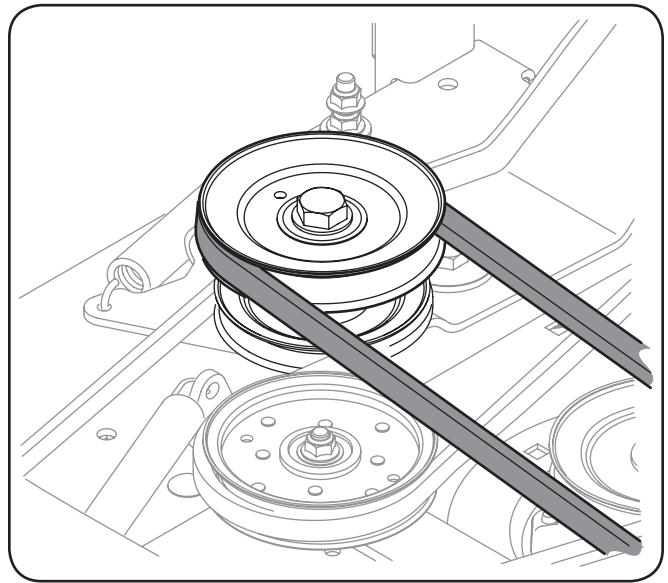

Figure 7-9
- Carefully route the PTO belt around the deck drive pulley, with the 'V' side of the belt facing inward, by slowly rotating the pulley with the belt in your palm. Once the belt is seated, *slowly* allow the wrench to pivot forward, applying tension. See Fig. 7-9.